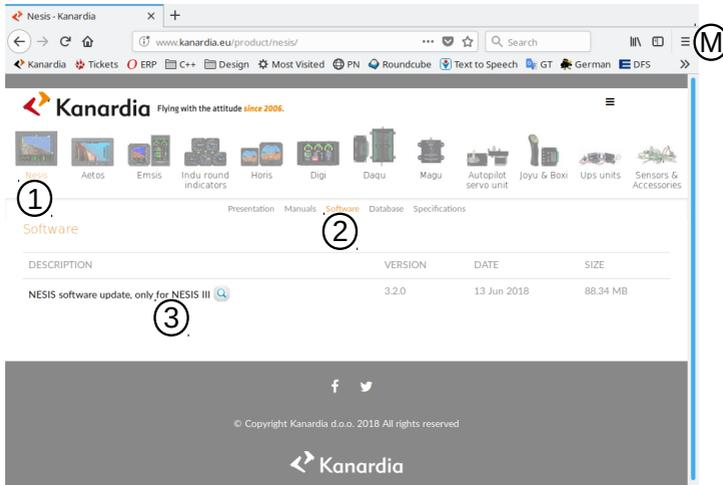

Figure 4.1: Illustration of the Nesis software download page. Usually only the latest update is available.
- ① Open the home page and select *Nesis* icon on the top. This leads to Nesis specific page.
- ② Select *Software* next. This opens a page with Nesis specific software. An example is shown in Figure 4.1.
- ③ Click on the link to start download process of selected software file.
1. Click on the  $\equiv$  menu symbol. See label  $\textcircled{M}$  in Figure 4.1.